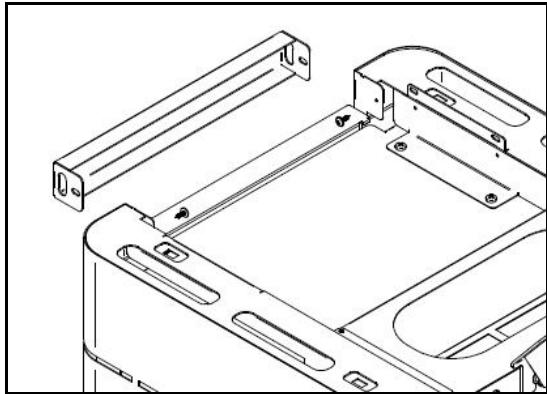

Figure 24 - Attaching the front on the K200 model
- f) For the model K200 it is also necessary to place the finishing front that came together with the machine. You must use 2 screws of the kit as shown in Figure 24.